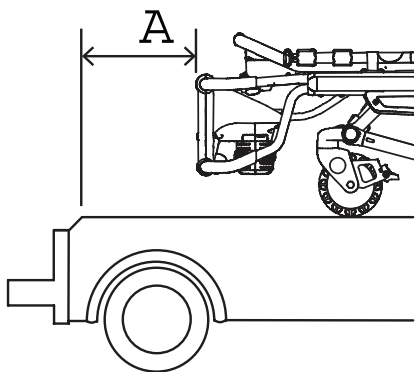

Figure 4 – Sill to cot distance (A)
1. Select your sill to cot distance (A) (Figure 4).
2. Using the table below, select your section based on your sill to cot distance (A).